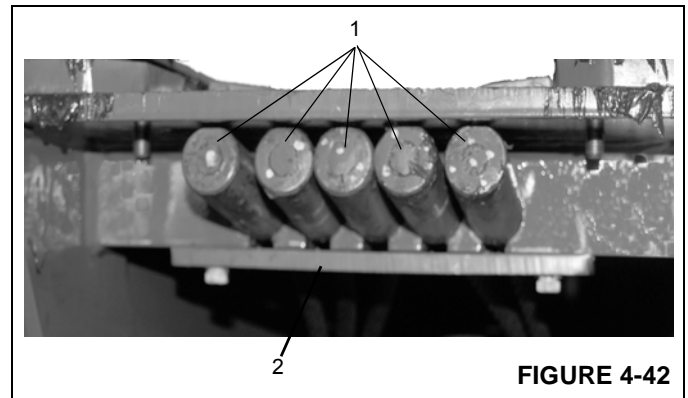

FIGURE 4-42
13. Place the five extend cable dead ends (Figure 4-42, 1) in the slots at the top of the fly section and secure them
with extend cable keeper plate (Figure 4-42, 2) and two bolts.